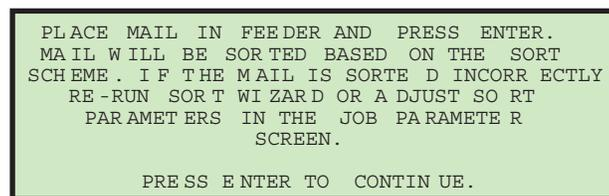

Figure 3-42: Informational screen
17. If you select **YES**, an informational screen is displayed (Figure 3-42).